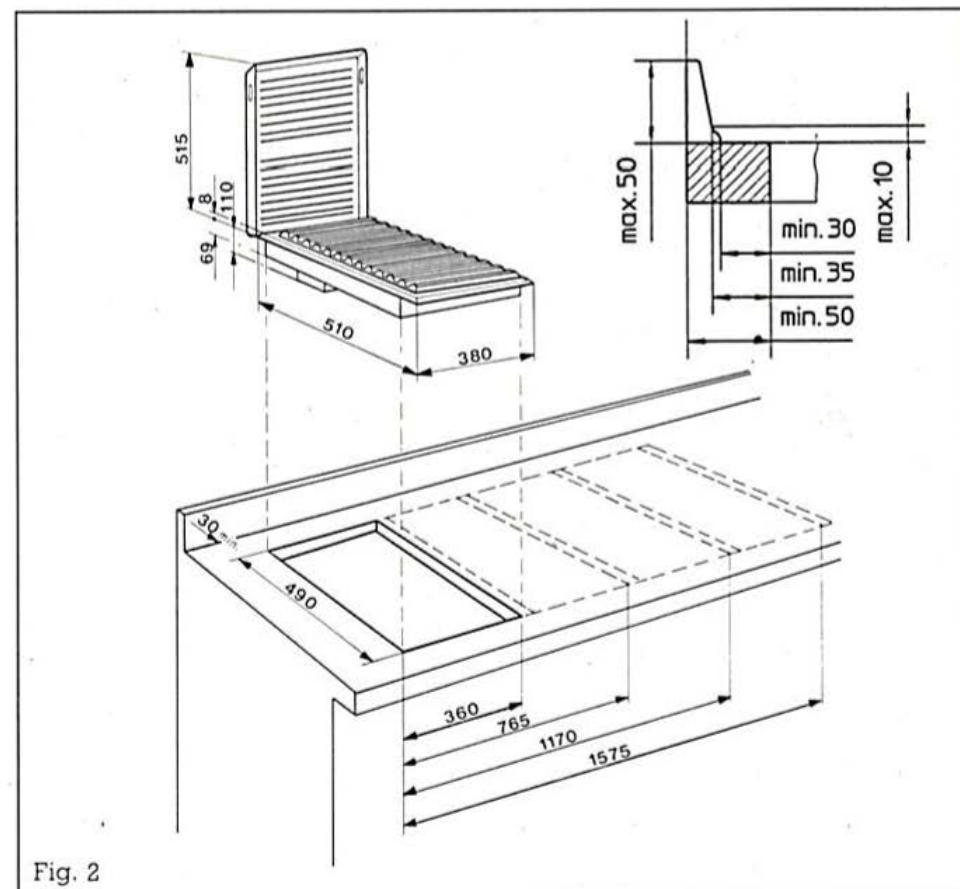

Fig. 2
- Prepare the cut-out in the work top in accordance with Fig. 2. The dimensions given for installation of several appliances already include the space required for the connecting strip. The appliances may also be installed in separate cut-outs, allowing a